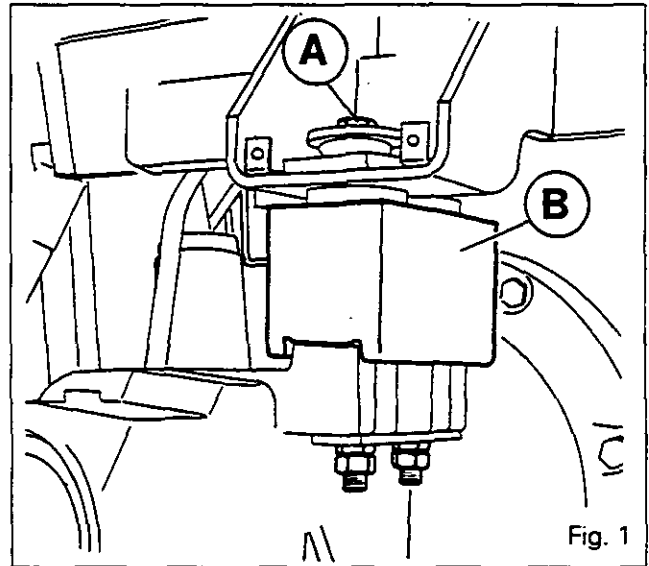

Fig. 1
8. Remove the cab attaching bolts (A) with the nuts (Fig.1).
9. Raise the cab sufficiently to lift the support spacer (B) clear (Fig.1).